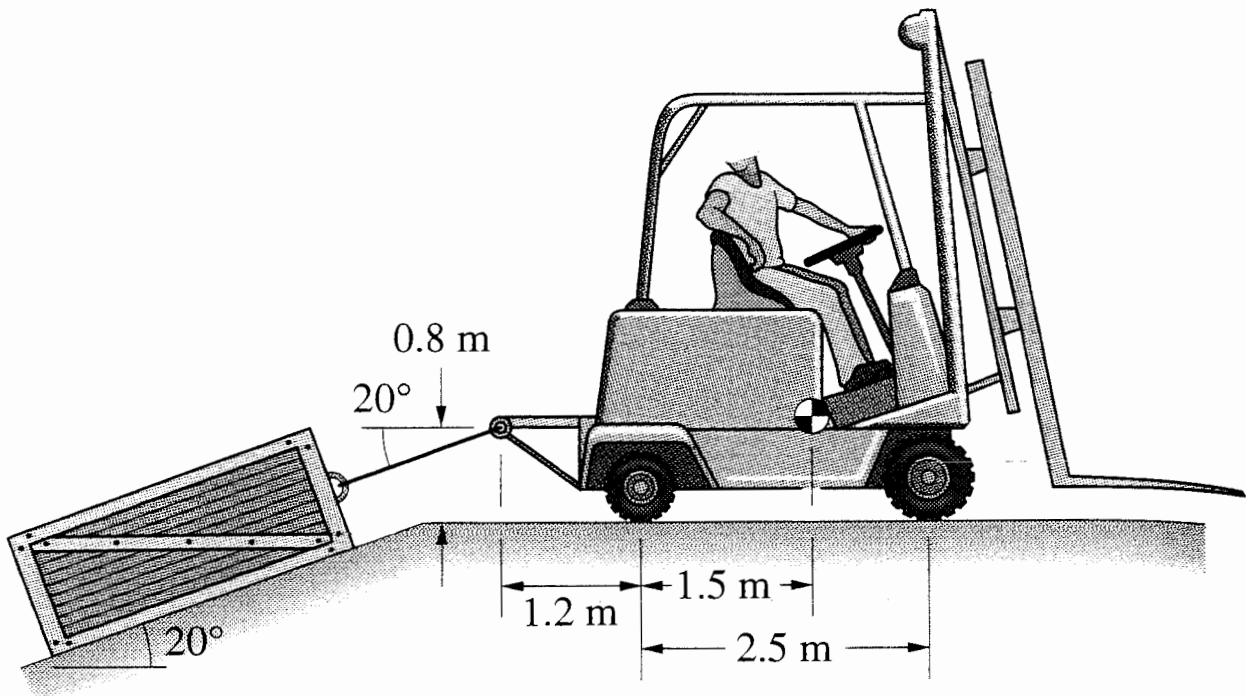

Fig. P5
- 5- The mass of the vehicle, shown in Fig. P5, is 900 kg; it has rear-wheel drive, and the coefficient of static friction between its tires and the surface is 0.65. The coefficient of static friction between the crate and the surface is 0.4. If the vehicle attempts to pull the crate up the incline, what is the largest value of the mass of the crate for which it will slip up the incline before the vehicle's tires slip? [Secs. 8.1 & 8.2] (25 pts.)